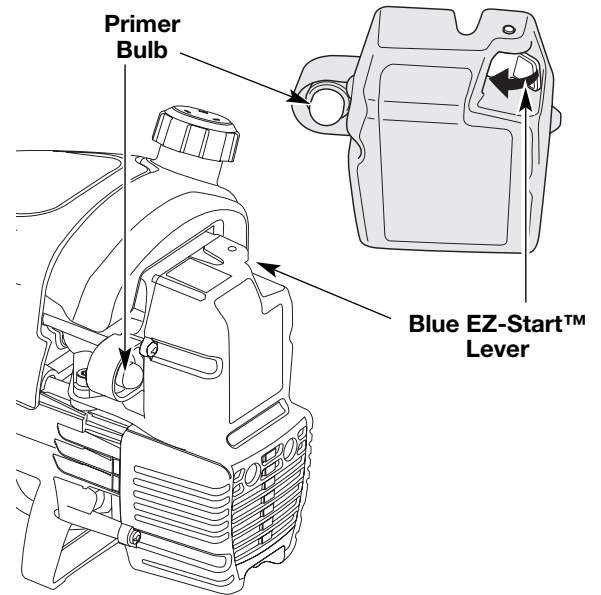

Fig. 7
2. Fully press and release the primer bulb 10 times, slowly. Some amount of **fuel should be visible in the primer bulb** and fuel lines (Fig. 7). If you can't see fuel in the bulb, press and release the bulb as many times as it takes before you can see fuel in it.
3. **Push the Blue EZ-Start™ Lever towards the primer bulb** until it clicks and locks into place (Fig. 7).